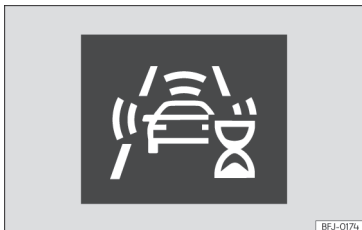

Fig. 122 On the instrument cluster screen: indication of the system's initial self-calibration.
- In the first few instants of driving after switching on the ignition, due to the system's initial auto-calibration. During this period, a status icon »» Fig. 122 is displayed.